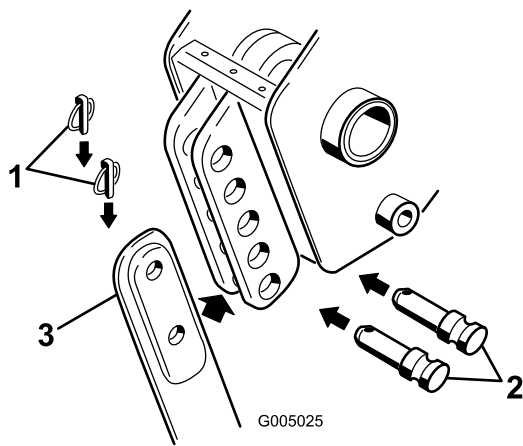

Figure 5
- Note:** To completely remove the blade, remove both the upper and lower lynch and clevis pins; refer to Figure 5.
4. Remove the 2 lynch pins from the clevis pins in the blade bracket, then remove the clevis pins (Figure 5) and the existing blade (if installed).
5. Slide the new blade into the blade bracket and secure it at the desired depth (a change in mounting holes changes the depth by 7.6 cm (3 inches), using the clevis pins and lynch pins removed previously (Figure 5).
Note: To completely remove the blade, remove both the upper and lower lynch and clevis pins; refer to Figure 5.